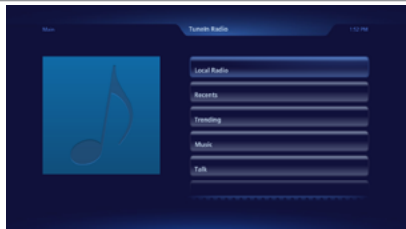

Figure 22
- Refer to figure 22 on the next page, then press the ►|| (SELECTS) Push-button to select Local Radio.